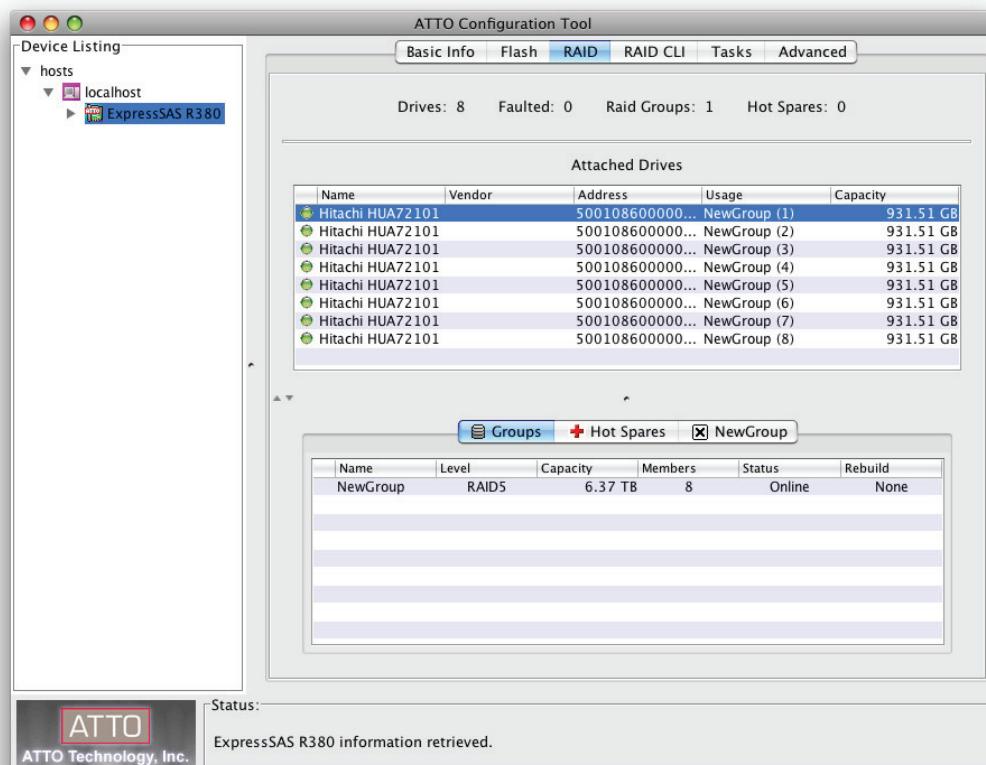

Figure 4
- The **RAID** tab provides information about attached drives, their RAID group and hot spare associations, and their operating status. See **Figure 4** on page 4.